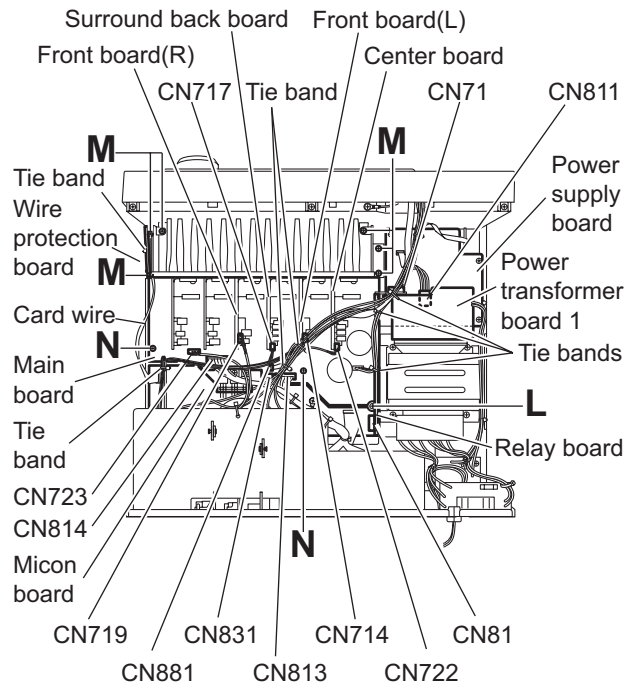

Fig.9
3.8 Removing the main board (See Fig.9)